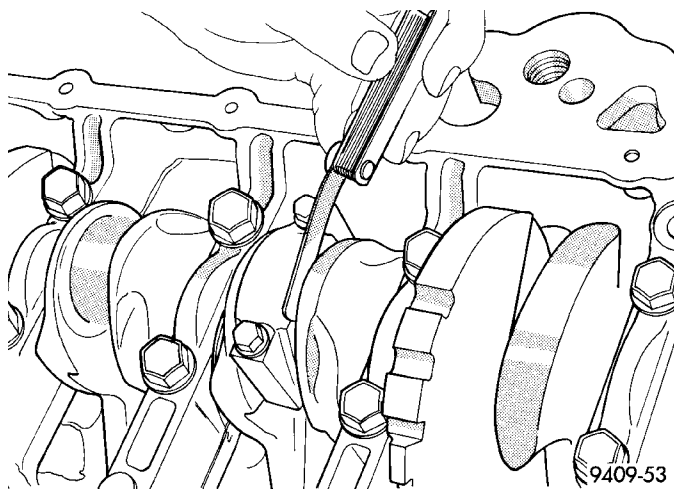

Fig. 9 Checking Connecting Rod Side Clearance
(2) Before installing the **NEW** bolts the threads should be oiled with clean engine oil.
(3) Install each bolt finger tight then alternately torque each bolt to assemble the cap properly.
(4) Tighten the bolts to 27 N·m PLUS 1/4 turn (20 ft. lbs. PLUS 1/4 turn) **Do not use a torque wrench for last step.**
(5) Using a feeler gauge, check connecting rod side clearance (Fig. 9). Refer to connecting rod specifications (Fig. 10).